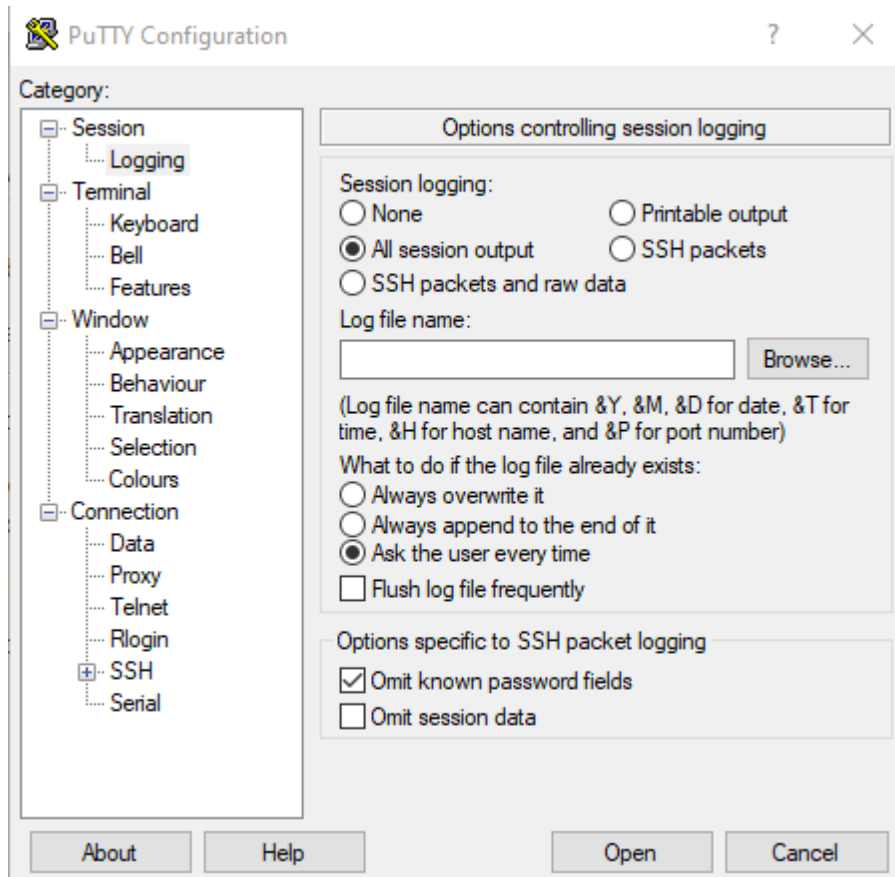
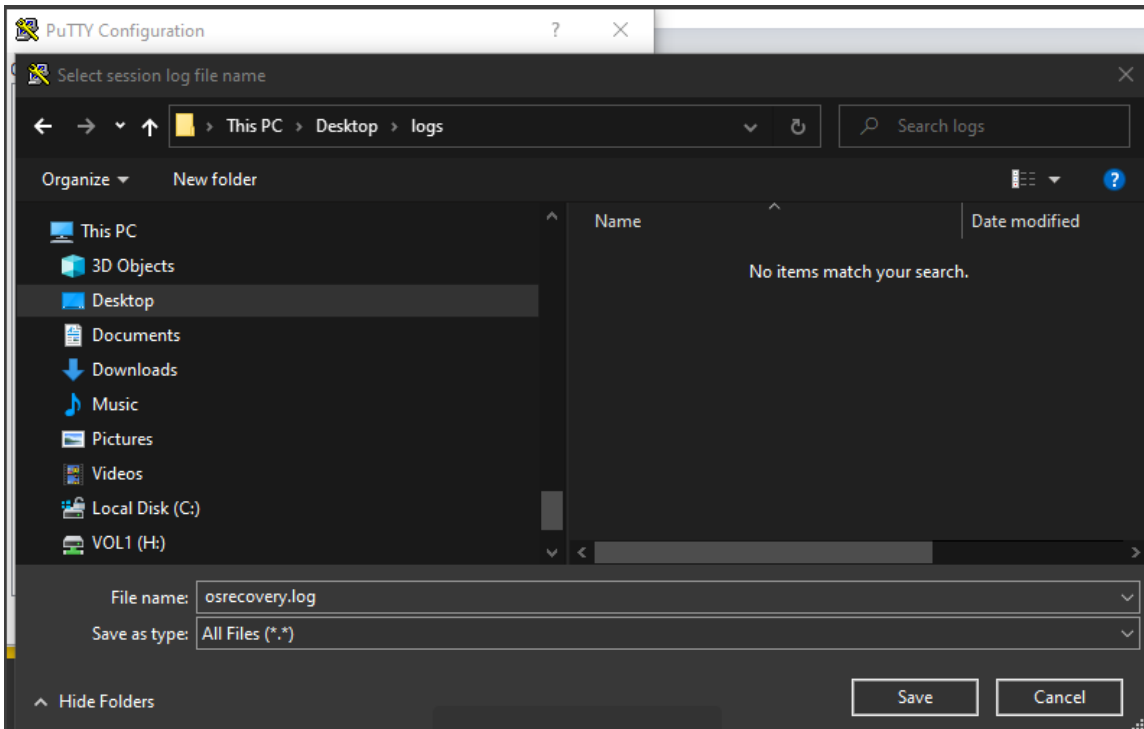

Figure 2: Enabling Logging
Figure 3: Saving Log File Name
- (d) See Figure 2. Enable logging by clicking **Logging** in the Category section. Select the **All session output** radio button. To set the directory and filename of the log, click the **Browse** button beside the **Log file name:** field.
- (e) See Figure 3. Choose an appropriate directory and filename and click **Save** in the bottom right corner of the dialog box. This will return you to the configuration settings in Figure 2.